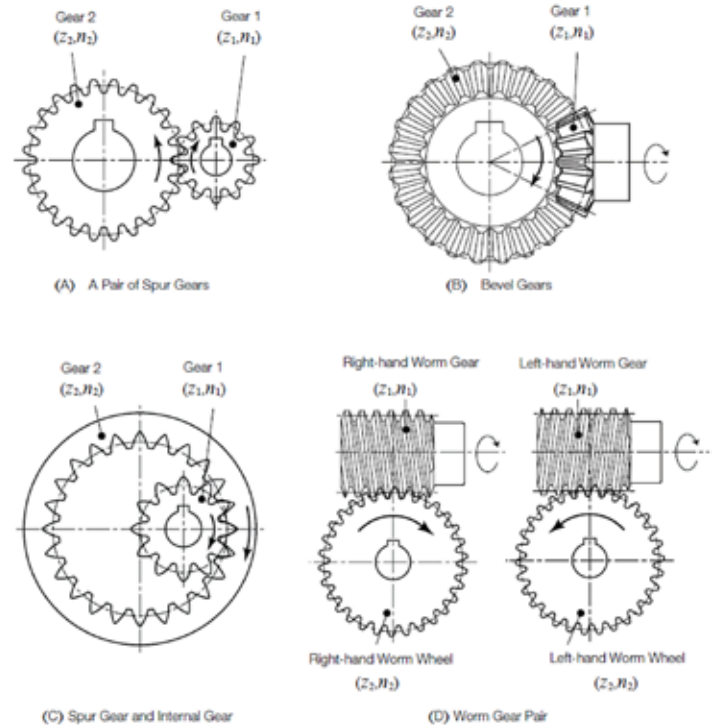

Figure 1: Single-stage gear trains.
Figure 1 shows the various forms of single-stage gear trains.
The most common forms of single-stage gear trains are the spur gear and the bevel pair meshes. These are detailed in Figures 1 (A) and (B). For these gear trains, the direction of rotation of driver and the direction of rotation of the driven gears are reversed. In the case of an internal gear mesh, as detailed in Figure 1 (C), both gears have the same direction of rotation. In the case of a worm pair mesh, as detailed in Figure 1 (D), the rotation direction of z_2 is determined by the direct of the helix hand.